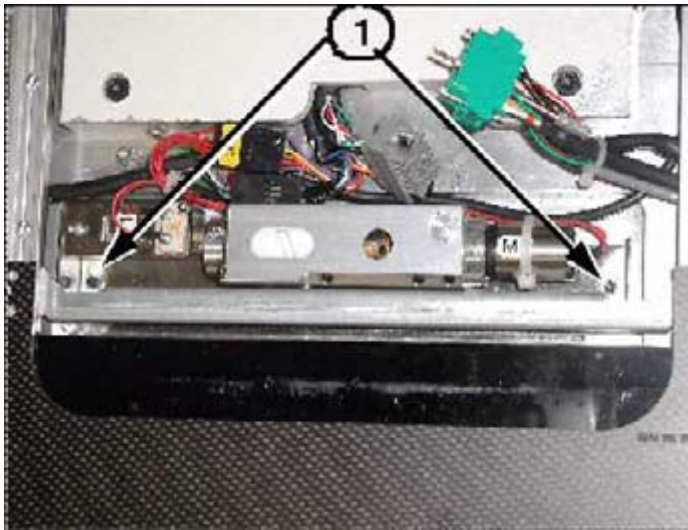

Fig. 32: Grid motor location
4. Move the grid to the left and right position. Be sure that space between the grid bracket and grid angle is the same on both sides. Otherwise loosen the two screws from the grid motor support (1/ Fig. 32 / p. 55) and adjust these spaces.